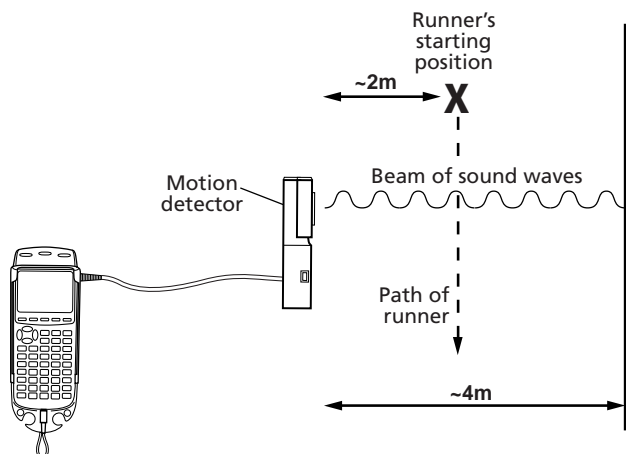

Figure 1
1. Connect the LabPro or CBL 2 unit to the TI graphing calculator, using the link cable. Connect the motion detector to the DIG/SONIC 1 port on the right side of the interface. Place the motion detector about 4 meters from a blank wall, facing the wall, as shown in Figure 1.
3. One of the students in the group will serve as the runner. That student should stand at the position shown in Figure 1, about 2 meters from the motion detector and slightly to one side. When data collection begins, the motion detector will transmit ultrasonic sound waves toward the wall. The runner should start outside of the range of the beam.
- The motion detector makes a clicking sound once it begins emitting sound waves. As soon as the runner hears the clicking sound, he or she will run across the beam of the motion detector, as shown in Figure 1. Since the experiment seeks to measure the runner's response time to the sound, the runner should not run in response to visual stimuli. For that reason, the runner should not look at the operator or at the motion detector, since some models have an LED that becomes lit when the motion detector is on.